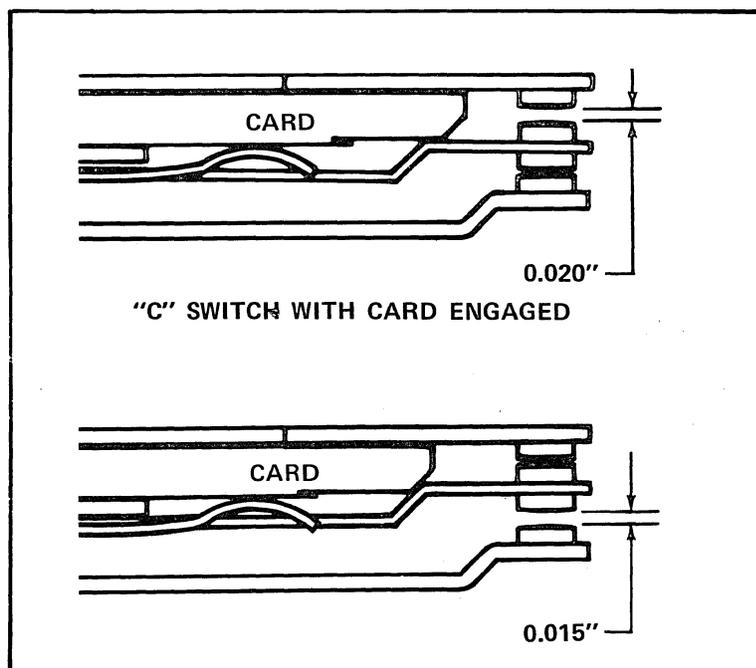

Figure 6-16 "C" Switch Engaged/Disengaged
- (2) Check "C" type switch gap with card engaged. Gap should be 0.020". With card disengaged gap should be 0.015". See Figure 6-16. Use 0.020" round gauge (see Table 7-1).